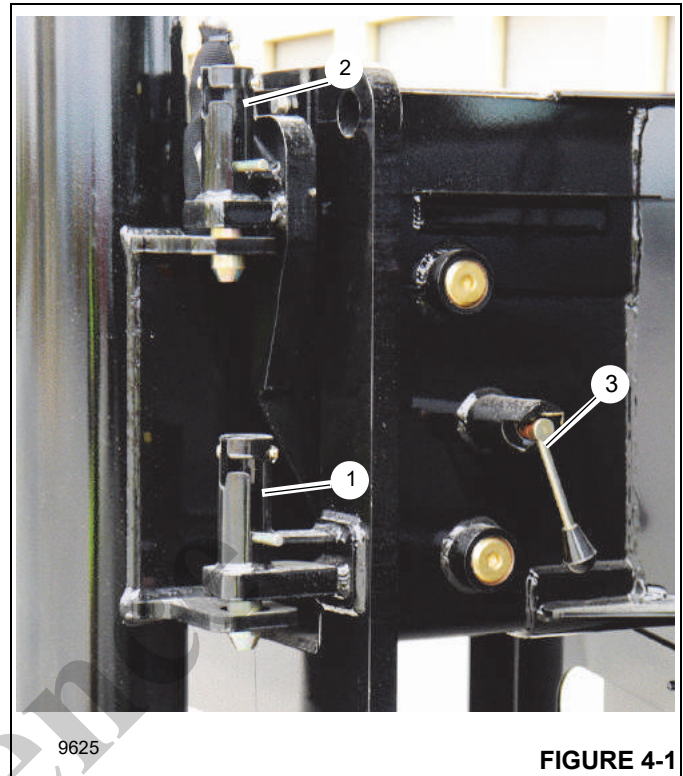

FIGURE 4-1
1. Disengage the mechanical travel lock (1, Figure 4-1) that secures each outrigger beam in the fully retracted position during travel.
- b. 50% extended position. Engage the manual over-center locks (2, Figure 4-1) for the midpoint position.
- c. (NTC60XL only) 75% extended position. Engage the manual locks (3, Figure 4-1) by rotating the handle clockwise.